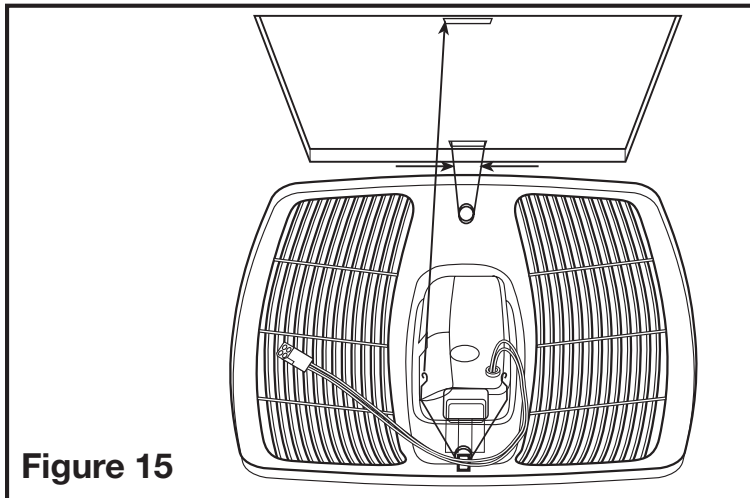

Figure 15
- 4a. **STANDARD AND HUMIDITY SENSING MODELS:** Install the grill by squeezing the springs together and installing it up into the slot furthest from the wire compartment on the fans housing. Attach the 4 pin quick connect from the grill to the 4 pin connector on the top of the wire cover. The cord will only fit one way into the receptacle. Install the other spring and push the grill up into position. (**Figure 15**).